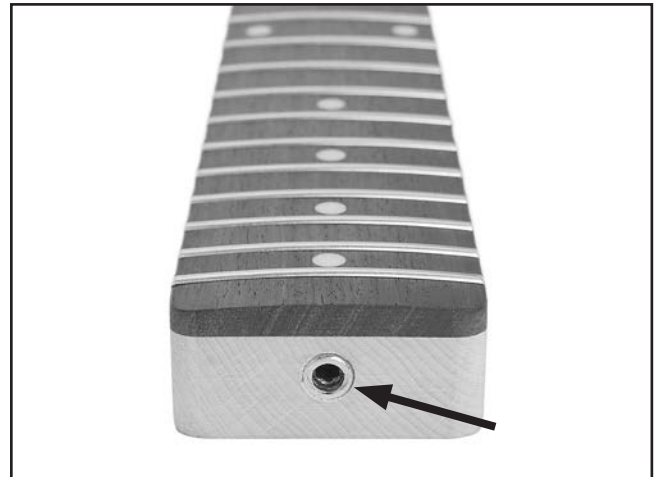

Figure 33. Truss rod nut.
3. Loosen the strings, remove the pick guard and pick guard pickup, and turn the truss rod nut (**Figure 33**) counterclockwise with a 4mm wrench to release tension on the neck. Retighten until the nut begins to grab.